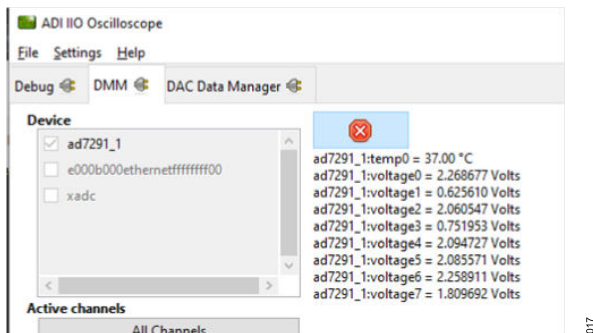

Figure 17. IIO Oscilloscope Voltage Monitor Panel
5. Navigate to the DMM tab of IIO Oscilloscope and confirm that the voltage monitor values align with those shown in Figure 17.